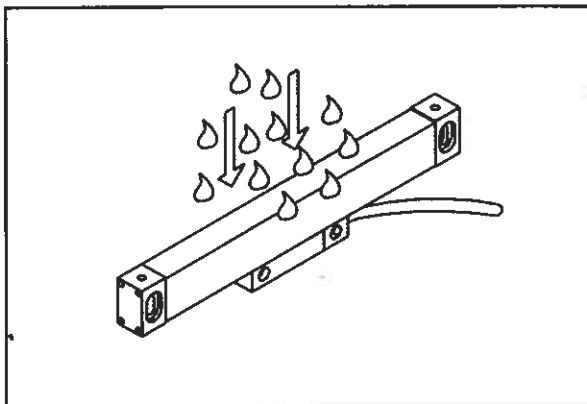

Figure 4. Scale exposure.
2. The opening of the scale must not be installed in direct exposure to metal shavings, oil, water, dust or other foreign objects as illustrated in **Figure 4**. The provided covers should be installed.